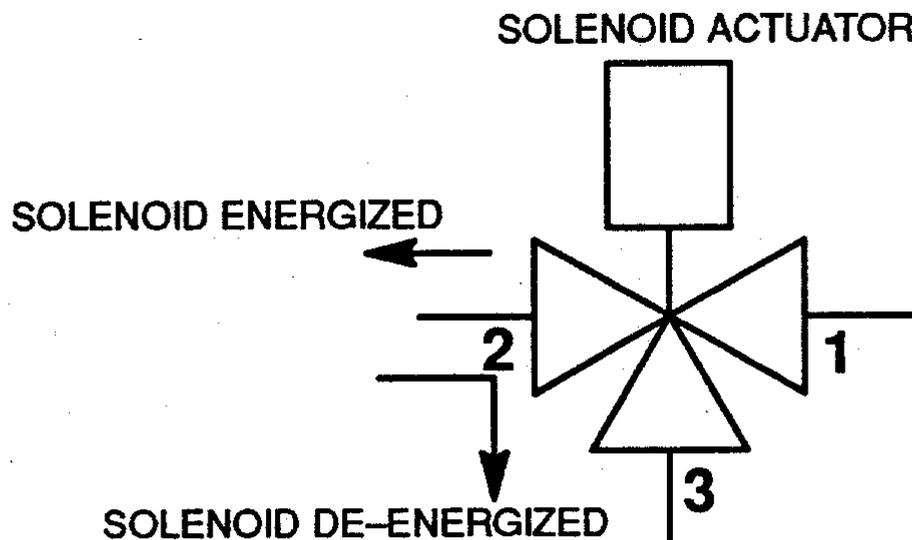

Figure 24: A Three-Way Solenoid Valve.
- In a three-way solenoid valve, as illustrated in Figure 24, energizing the solenoid coil causes the valve to open from **Port 1 to Port 2** while de-energizing the coil causes the valve to open from **Port 2 to 3**.